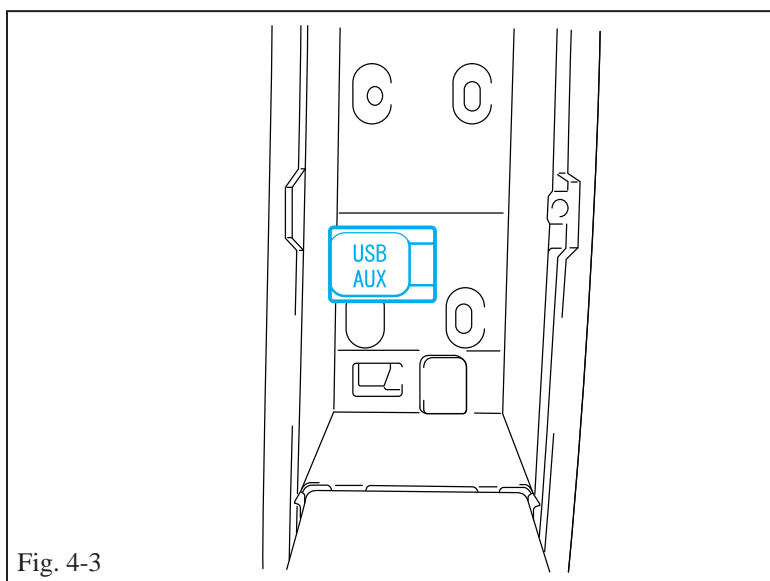

Fig. 4-3
- (c) Remove the AUX jack from the center console by pressing in the tabs, and install the new USB AUX jack supplied in the kit. (Fig. 4-3)